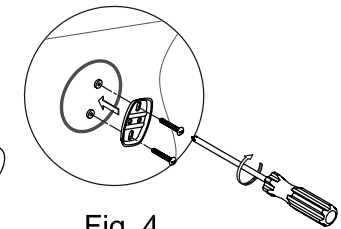

Fig. 4
- Step 5. Screw the mounting plate to wall with mounting screw. (Fig.4)